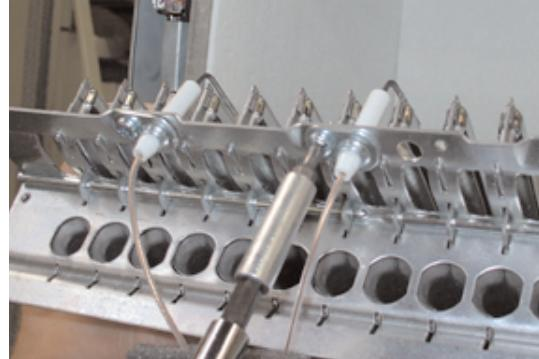

Fig. 54
4. Remove the self tapping screws securing the electrodes (see Fig. 54)